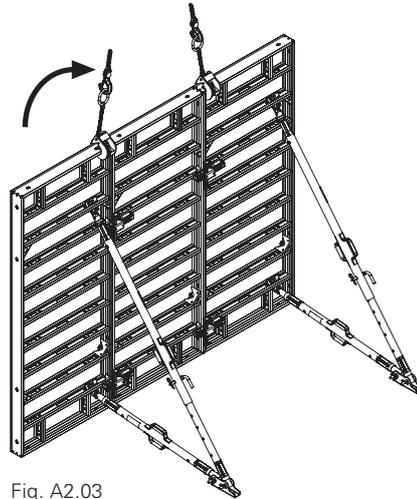

Fig. A2.03
3. Transport to place of operation by crane. (Fig. A2.03)